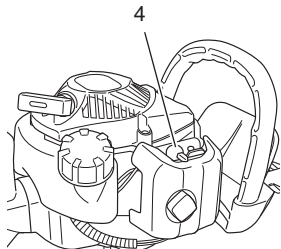

Fig. 4
\* Push priming pump (4) several times so that fuel flows through the pump or return pipe. (Fig. 4)